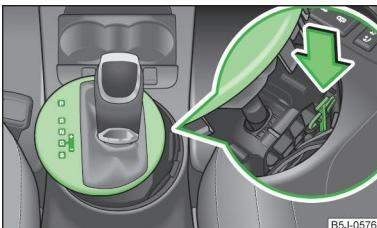

Fig. 107
- › Use a finger to press the yellow plastic part in the direction of the arrow » Fig. 107.